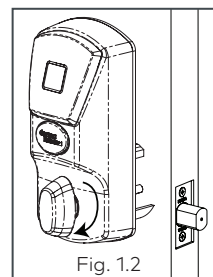

Fig. 1.2
3. Project the deadbolt from outside. See Fig. 1.2.